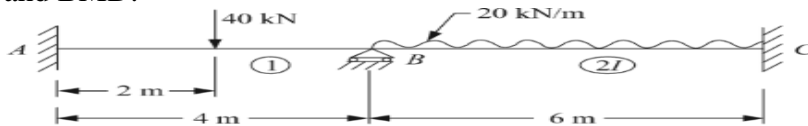

Fig. Q1
1. Analyse the beam shown in Fig. Q1 by slope deflection method. Draw SFD and BMD. 20 (3 :1: 2.2.1)